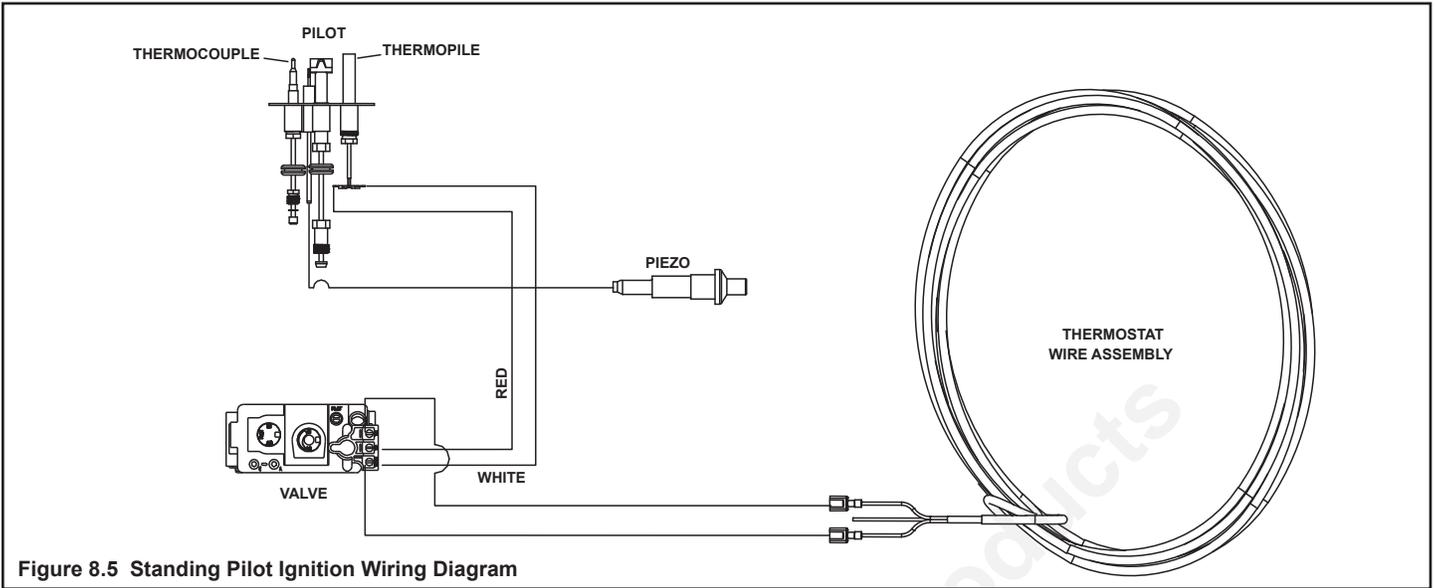

Figure 8.5 Standing Pilot Ignition Wiring Diagram
- The standing pilot ignition system wiring does not require a 110-120 VAC supply to operate. See Figure 8.5.